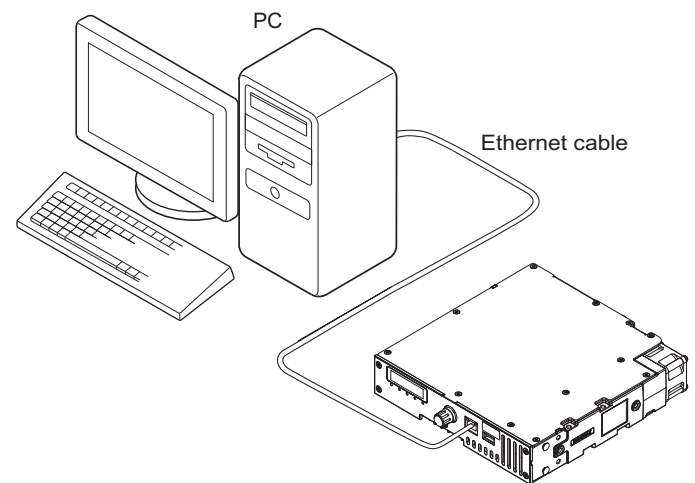

Fig.1
The repeater is programmed by using a personal computer (PC), an ethernet cable and a Programming software (FPU). The programming software can be used with a PC. Fig.1 shows the setup of a PC for programming.